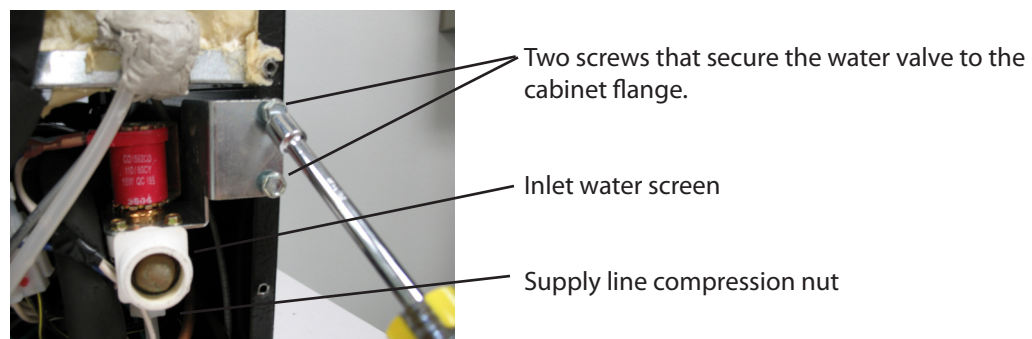

Figure 4.3
5. Remove the two screws securing the water valve to the flange of the cabinet (see Figure 4.3).